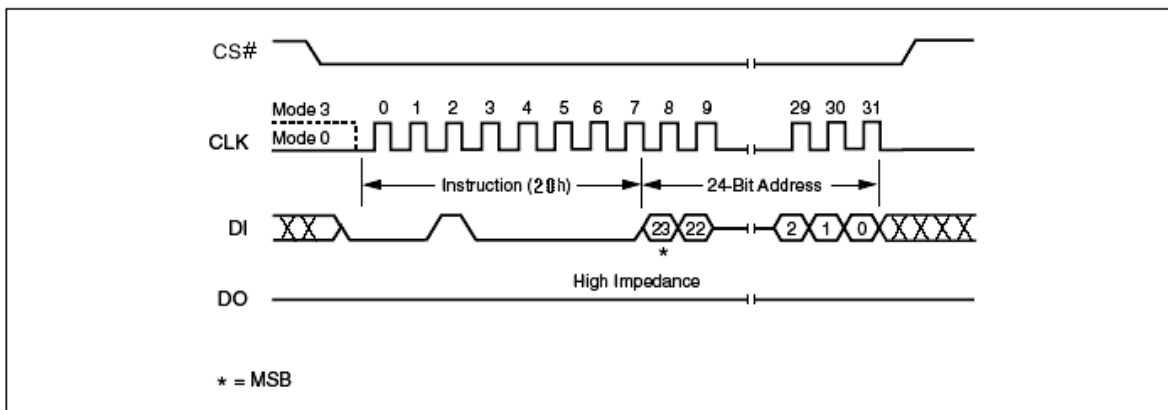

Figure 28. Sector Erase Instruction Sequence Diagram
The instruction sequence is shown in Figure 28. Chip Select (CS#) must be driven High after the eighth bit of the last address byte has been latched in, otherwise the Sector Erase (SE) instruction is not executed. As soon as Chip Select (CS#) is driven High, the self-timed Sector Erase cycle (whose duration is t^{SE}) is initiated. While the Sector Erase cycle is in progress, the Status Register may be read to check the value of the Write In Progress (WIP) bit. The Write In Progress (WIP) bit is 1 during the self-timed Sector Erase cycle, and is 0 when it is completed. At some unspecified time before the cycle is completed, the Write Enable Latch (WEL) bit is reset.